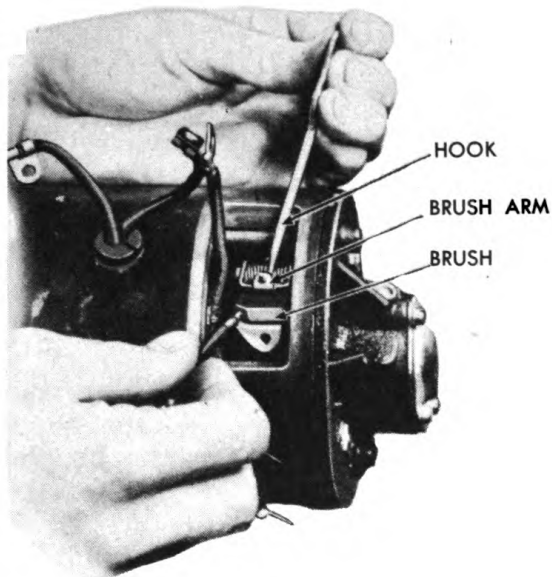
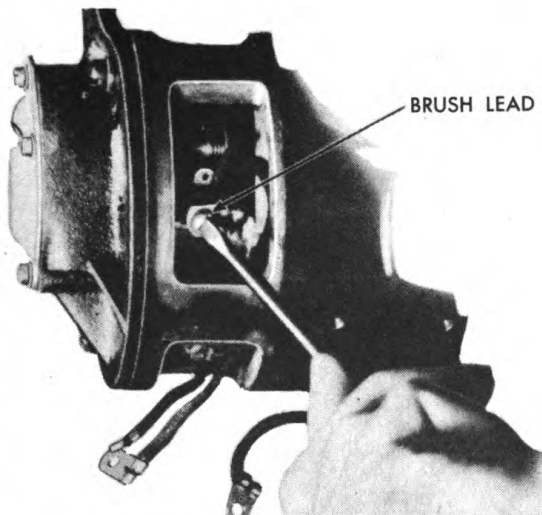

Figure 229. Removing Brush.
Figure 230. Disconnecting Brush Leads.
D. To remove the brushes, lift the brush arm as shown in Figure 229, and disconnect the brush leads as illustrated in Figure 230. When installing brushes make sure that the brushes are assembled so that the beveled face of the brush fits the commutator. Check the alignment, to make sure that the brush edge is parallel with the commutator segments. If the alignment is off, or if the brushes do not slide freely, the commutator end plate should be disassembled and inspected as described in paragraph 85.
4. Disconnect the lead at the third brush and the insulated main brush as shown in Figure 230. Lift the brushes off the commutator as illustrated in Figure 229.